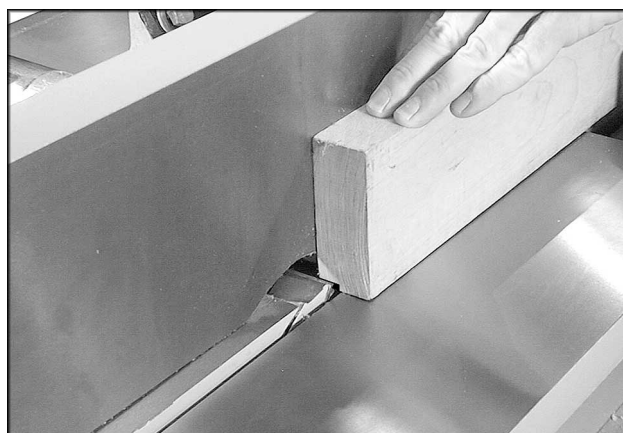

FIGURE 21a
A rabbet is a groove cut along the edge of a board. See Figure 21A. The width and thickness of the wood to be rabbeted depends upon the width and length of the rabbet. However, never rabbet a piece of wood less than 12" long.
4. Reconnect power. Lower infeed table 1/32" at a time and make successive cuts until the desired depth of rabbet has been obtained. See Fig. 21A. NOTE: It is easier and safer to take a series of shallow cuts.